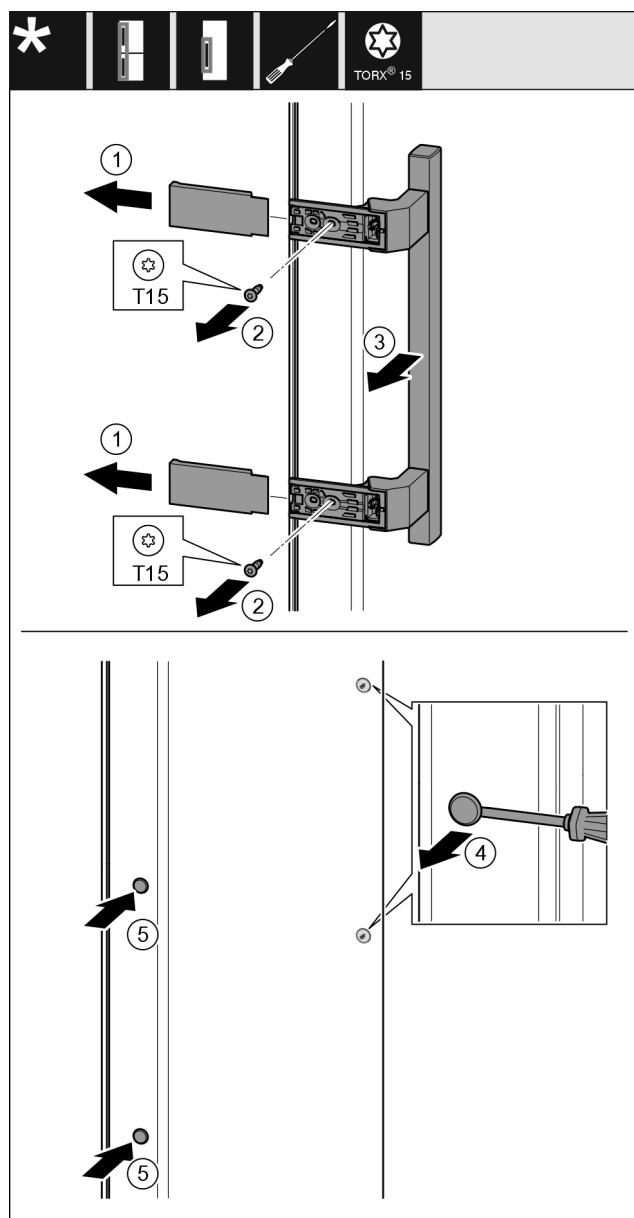

Fig. 40
- Pull off the cover Fig. 40 (1).
- Turn out the screws Fig. 40 (2) with the screw driver.
- Remove the handle Fig. 40 (3).
- Carefully lift the side plug Fig. 40 (4) with a slotted screwdriver and pull it out.
- Reinsert the plug Fig. 40 (5) on the other side.